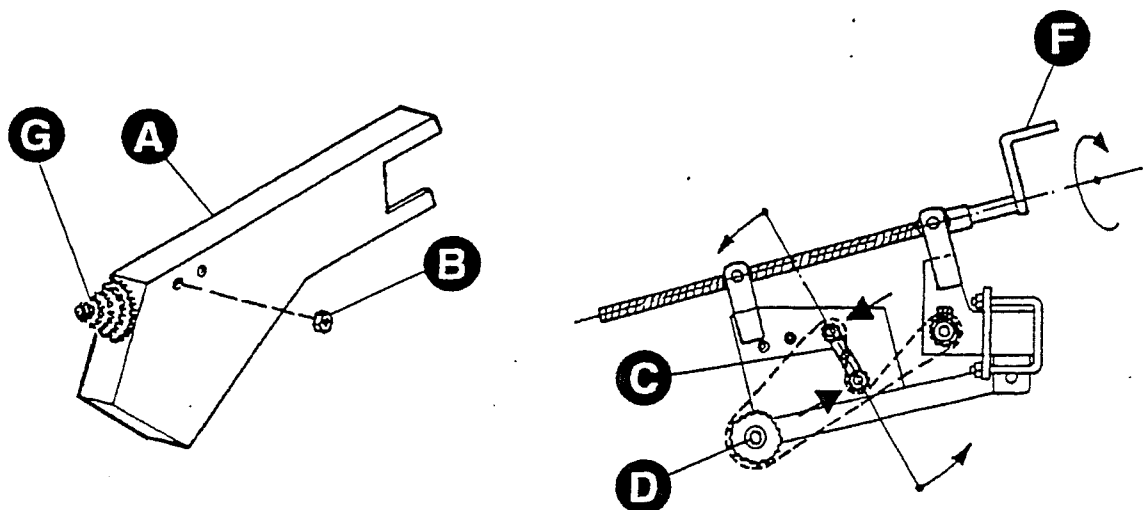

FIG. 13
- Tighten the wheel depth adjustment device (fig. 13.F) to reduce the tension of the chain
- Remove the casing (fig. 13.A) by turning the nuts (fig. 13.B)
- Change the gears by turning the appropriate fixing screws (fig. 13.D), positioning them as shown in the table (fig. 14)
- Reposition the chain making certain that it is correctly inserted on the appropriate chain tensioner (fig. 13.C)
Fig. 19.D - cups inclined to the rear; considered the corrective position, advisable when transplanting on plastic film, at a distance between plants obtained using setting 19 (wheel) and 17 (hexagonal shaft) (see chapter 19, fig. 13).